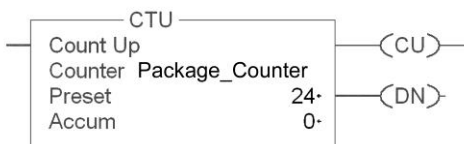

Figure 15-35 Counter instruction for question 2.
- 2-1. For the counter instruction shown in Figure 15-35, which parameter specifies the value the counter must reach before the done bit turns on? 2-1. _____